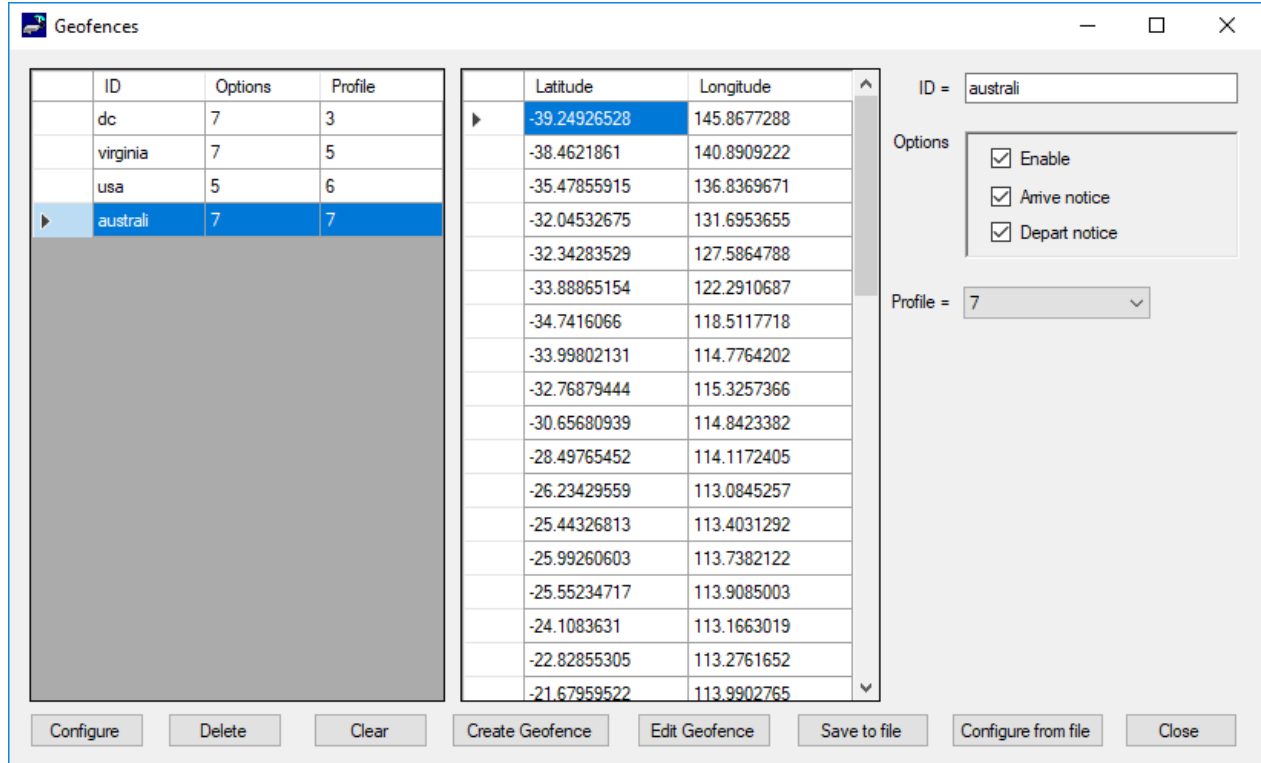

Figure 36: Geofences Window
A Geofence forms-based GUI configuration tool is available using SatTerm. To configure Geofences with SatTerm, select **Options > Geofences** (see **Figure 22**); the *Geofences* window shown in **Figure 36** appears. Note that the visual map-based Geofence options *Create Geofence* and *Edit Geofence* utilize Google Maps, so an internet connection is required for a map to appear.
13. **Edit Geofence:** Opens a window to edit the coordinates of the selected geofence. The window is the same as *Create Geofence* with the same functionality, but it opens prepopulated with coordinates, as shown in **Figure 36**.